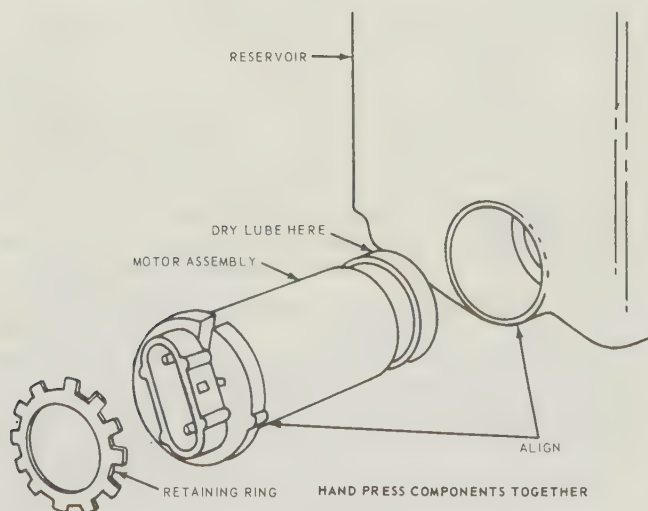

Fig. 10.38. Windshield washer reservoir and motor (Sec. 53)
- 3 To remove the pump motor from the reservoir, pry out the retaining ring and carefully pull the motor out of the reservoir recess (See Fig. 10.38).